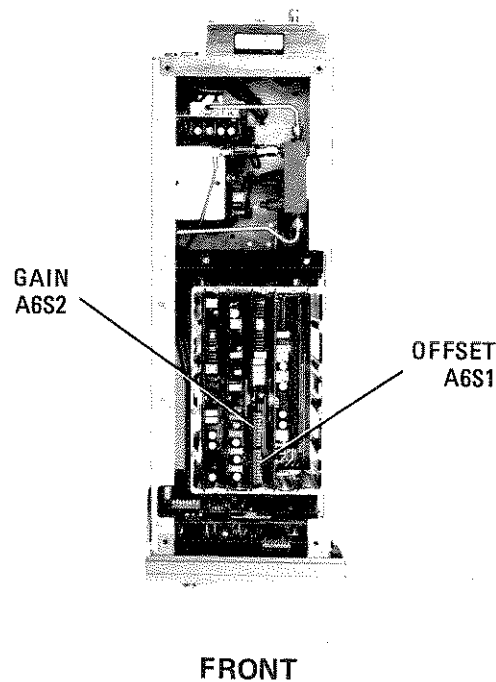
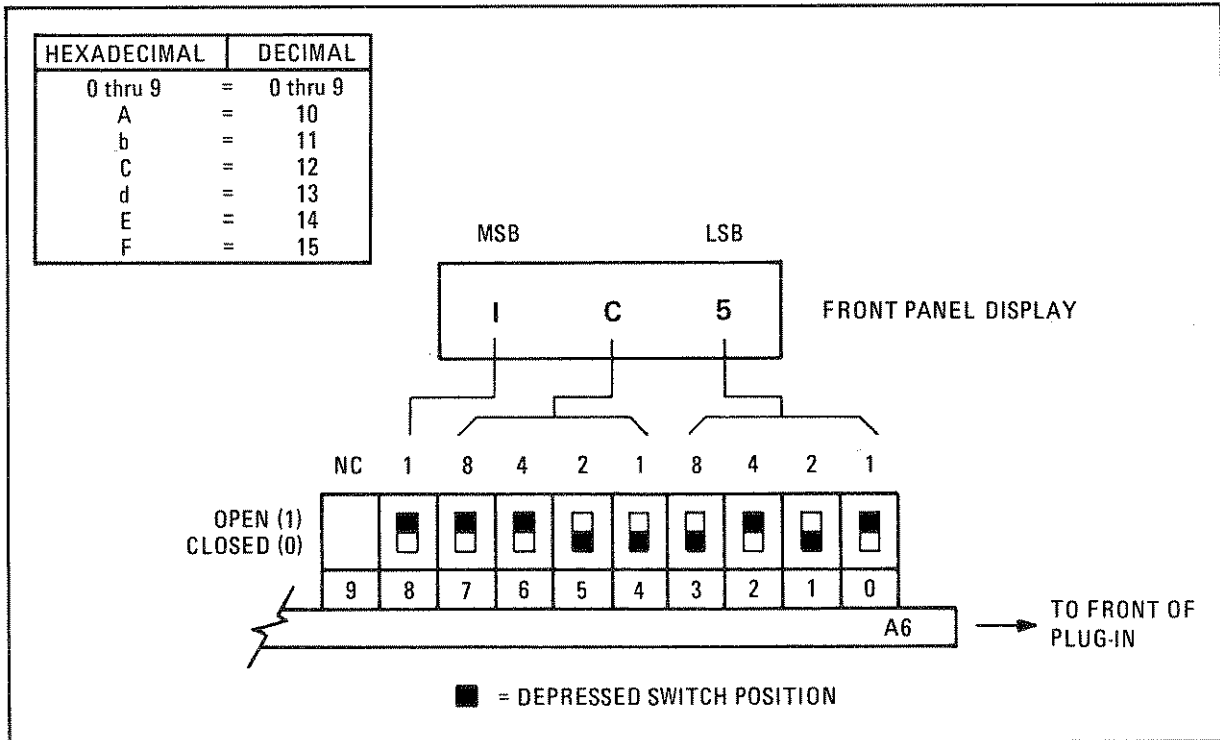

Figure 5-11. Frequency Calibration Adjustments Location
Figure 5-12. A6S1 and A6S2 Frequency Calibration Switch Configuration
10. Set switch A6S1 (Figure 5-11) for the value displayed in the POWER window. Note the hex number for subsequent verification. Refer to the diagram in Figure 5-12.
16. Set A6S2 (Figure 5-11) for the reading displayed in the **POWER** window. Note the hex number for subsequent verification.